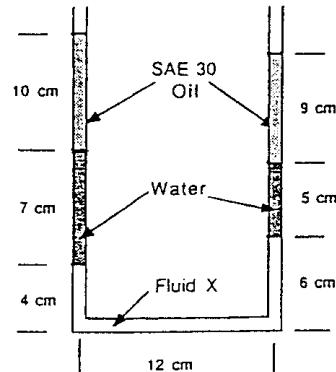

Fig. P2.46
**2.46** In Fig. P2.46 both ends of the manometer are open to the atmosphere. Estimate the specific gravity of fluid X.